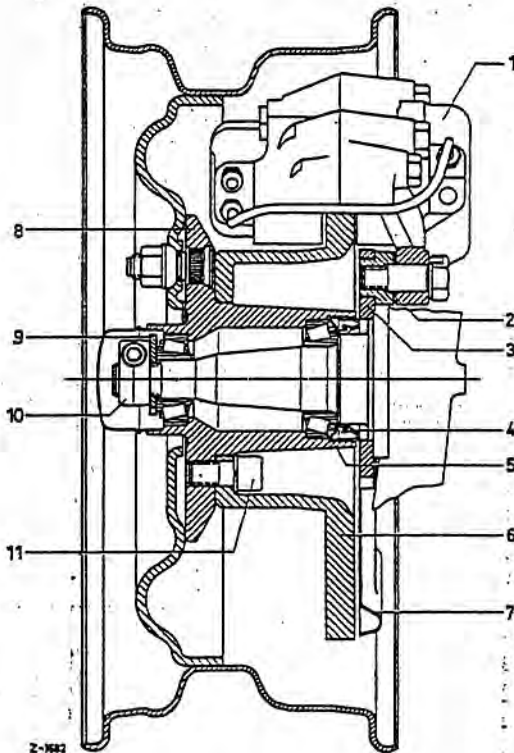

Fig. 42-11/1
3. Fix the front wheel hub in Fixture 136 589 05 31 and unscrew the hexagon socket screws (11) fixing the brake disk (6) to the front wheel hub (8) (Fig. 42-11/1).
4. Check the brake disk for scores and replace if scoring is excessive (Figs. 42-11/2 and 3).
**Note:** Since the brake disk is not protected against the influence of dust and dirt, scores are liable to occur after short runs of a car. Such concentric scores have no negative influence on braking action. The brake disk need only be replaced if the scoring is excessive i. e. if the scores have a depth of approx. 0.5 mm (Fig. 42-11/2).